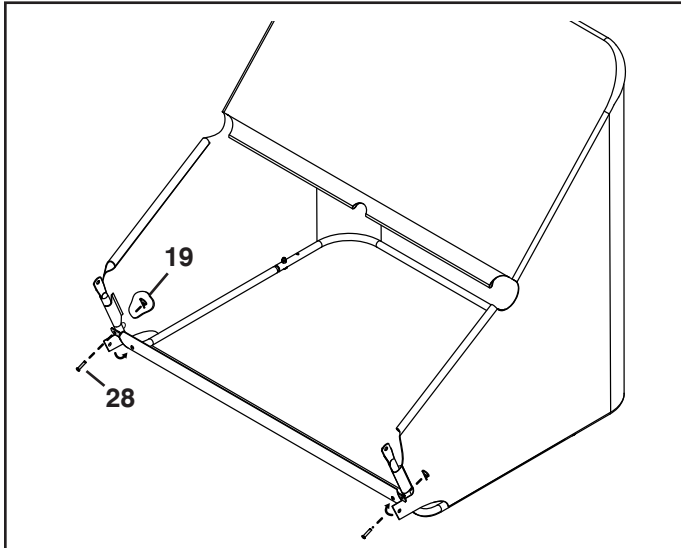

FIGURE 9
STEP 9: (SEE FIGURE 9)
- Slide the front flaps of the hopper bag up onto the front of the lower hopper tubes. Secure the bag frame tube to the lower hopper tubes using two clevis pins (28) and hair pins (19).